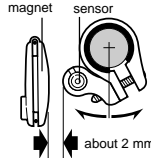

Fig. 12
3. Align the magnet's center and the sensor's marking line (fig. 11), and make sure of 2mm clearance between the magnet and sensor (fig. 12). Then tighten the screw securely. Cut the excess of the band-B with a nipper or the like.